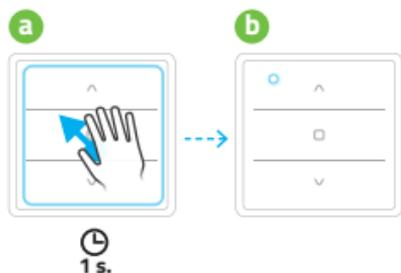

Fig.9.3
2. Activation by waving your hand to the field on the remote control screen. This mode is only possible with the active control the motions. In this mode, the LED on the screen lights up in the upper left corner of the screen. The remote control is expected to order for these channels or select more channels - **Fig. 9.3**.